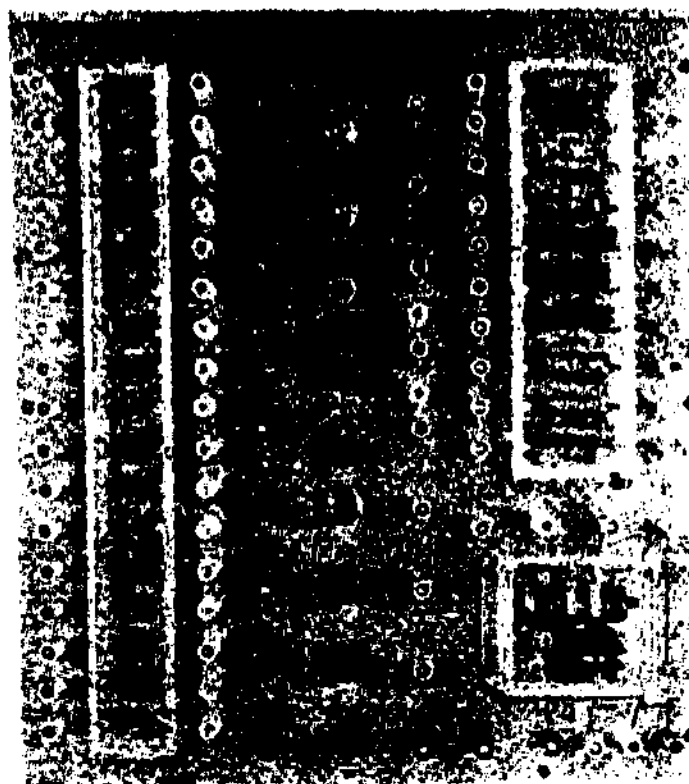

Figure 8
1. Place the DC trainer (figure 8) on the bench in front of you.